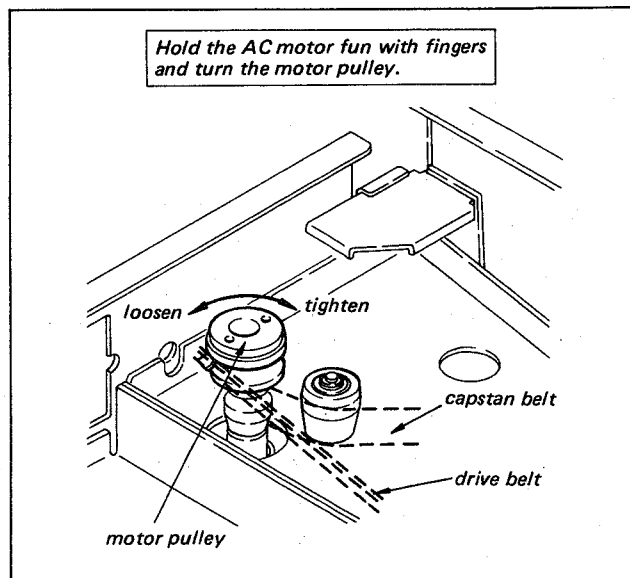

Fig. 6-31. Replacement of motor pulley
- (1) Clean the Capstan Belt and apply oil to the capstan bearing.
- (2) If it is still outside the specification, replace the capstan belt with a new one.
- (3) If the specified value is not obtained after Steps (1) and (2), replace the motor pulley as shown in Fig. 6-31. Kinds of pulleys and variations in tape speed due to the pulley replacement are shown in Table 6-2. Select a suitable pulley by considering the measured value of the tape speed and the mark on the pulley on the unit.
- (4) Confirm that the tape speed is within the specified value following replacement.